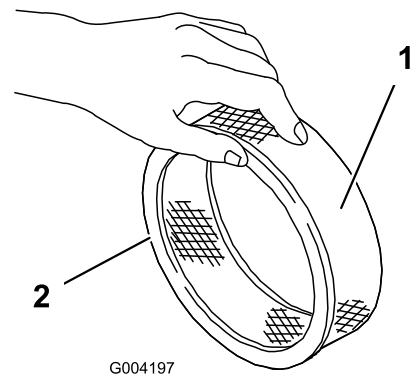

Figure 17
5. Inspect the paper filter for tears, an oily film, and damage to the rubber seal (Figure 17).
1. Carefully slide the foam pre-filter onto the paper filter (Figure 17).